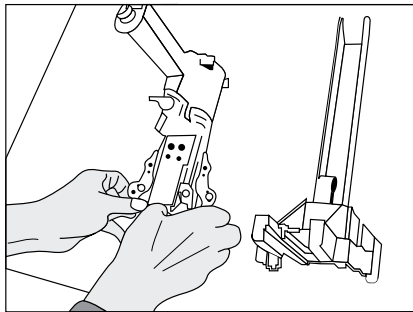

Figure 18
5. Slide the linkage mechanism and adjusting rod simultaneously from the collar. (See Figure 18)